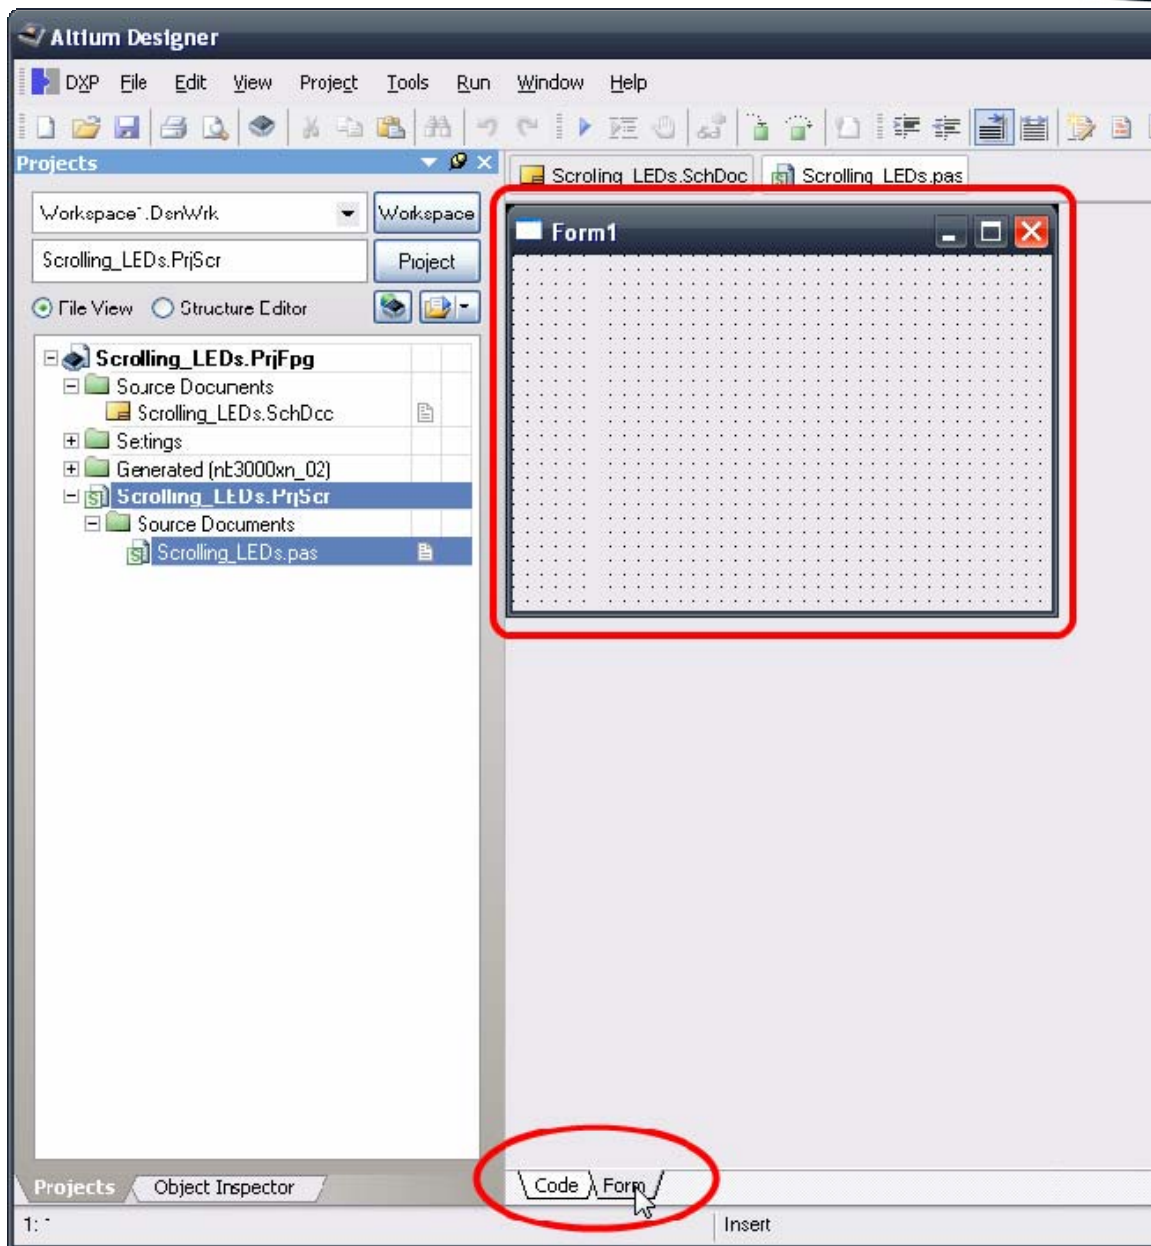

Figure 12. Switch to the Form view, to display the blank form.
41. Select the Form tab along the bottom of the main workspace to enable the Form view, as shown in Figure 12. The blank form will be displayed at the top left of the workspace.